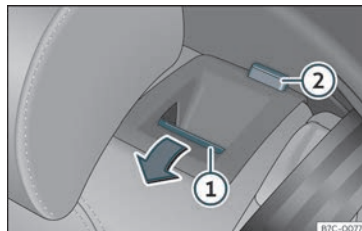

Fig. 111 Rear seat: folding the backrest.
- Press the unlock button»» **Fig. 111**  for-wards and at the same time fold the backrest down. The rear seat backrest is not engaged when the red marking of the button  is visible.
The rear seat backrest is not engaged when the red marking of the button **»» Fig. 111 ②** is visible.